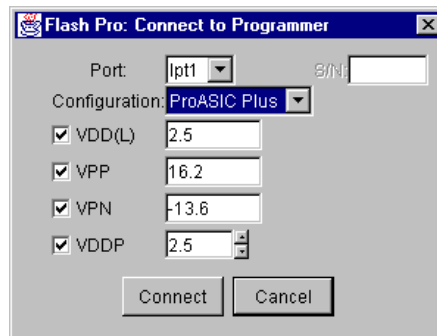

Figure 2-1. Flash Pro: Connect to Programmer Dialog Box
1. **From the File menu, click *Connect*.** The Flash Pro Connect to Programmer dialog box is displayed, as shown in Figure 2-1.